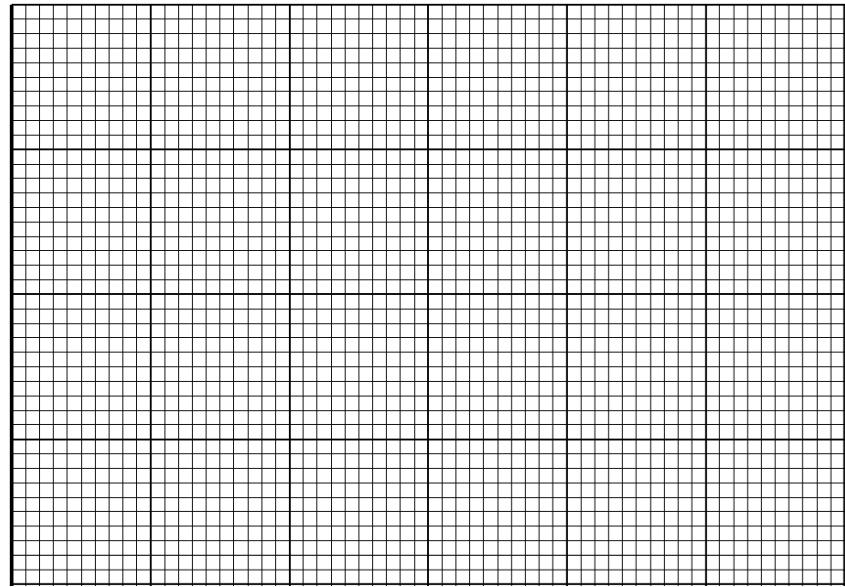

Fig. 4.3
- (ii) On Fig. 4.3, sketch the variation with frequency of the amplitude of the oscillations of the metal cube between 2 Hz to 8 Hz.